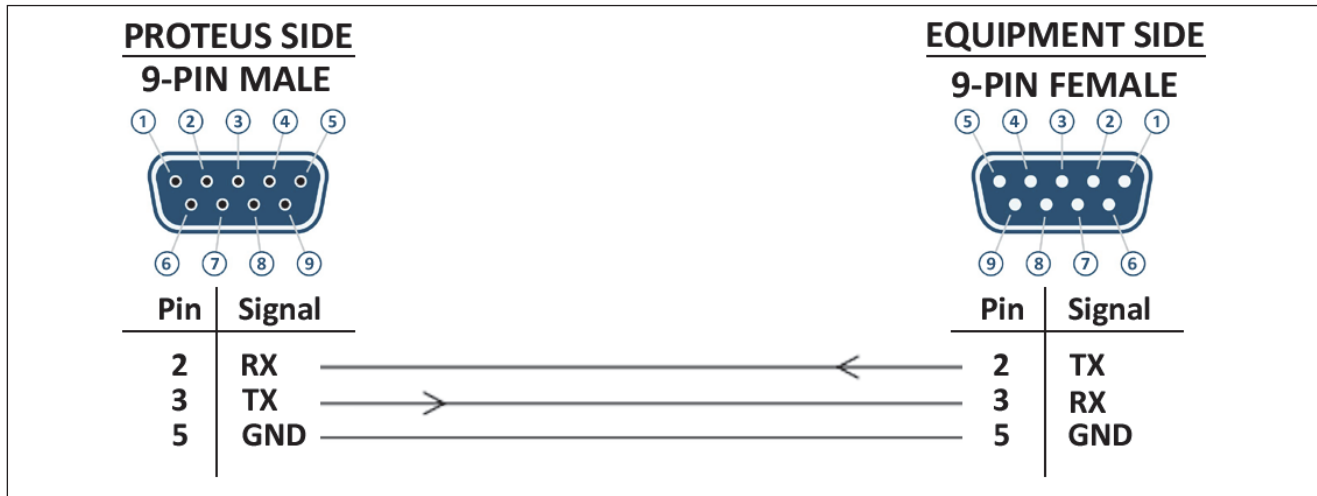
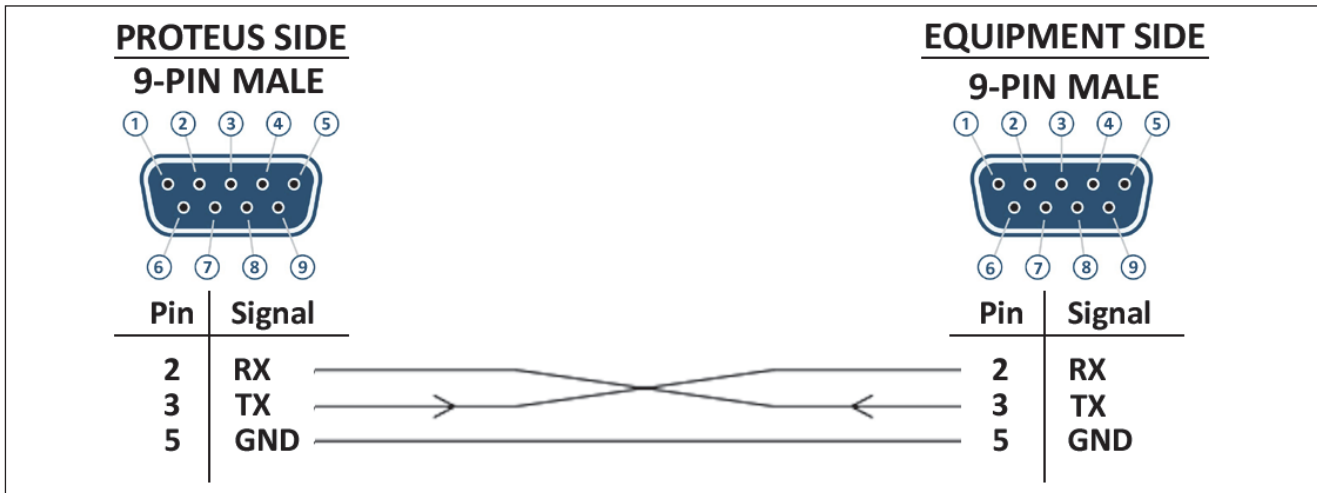

Figure 1.0
Figure 2.0
RS-232 Interface DB9 Cable Pinout (Figures 1.0 and 2.0):
- Figure 1.0 and Figure 2.0 show the DB9 connectors from the front.
- Figure 1.0 shows the wiring from a PROTEUS male DB9 connector to a female DB9 connector.
- Figure 2.0 shows the wiring from a PROTEUS male DB9 connector to male DB9 connector.